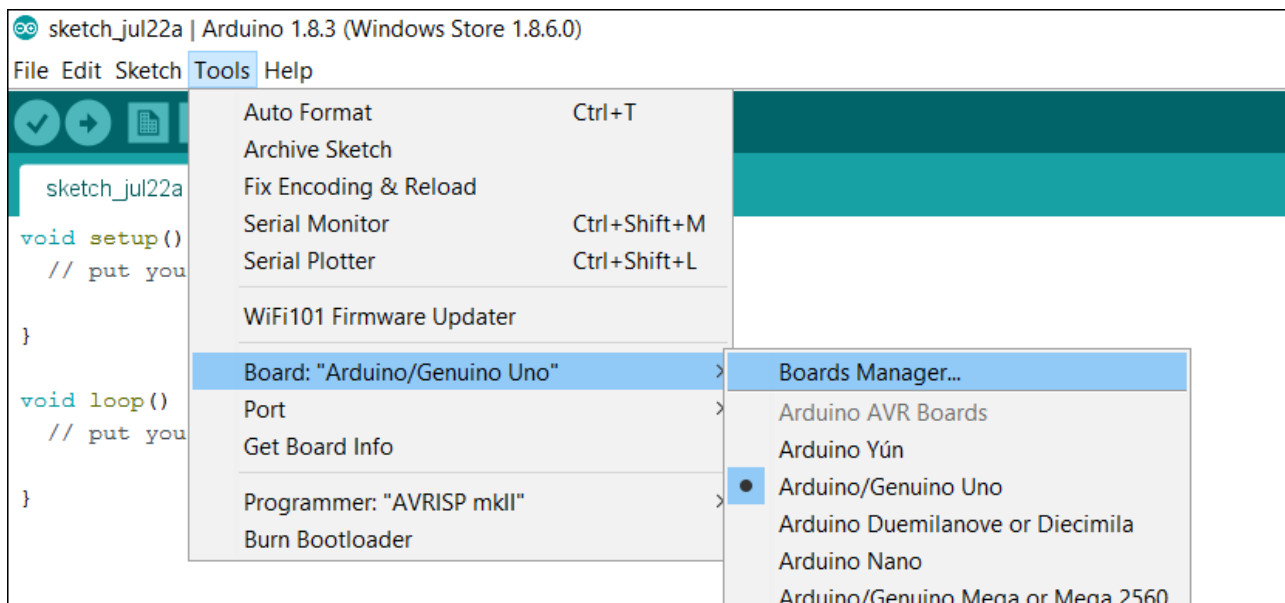

Figure 5-5 Arduino IDE, Boards Manager Menu
4) Now click the menu Tools / Boards / Boards Manager, as shown in Figure 5-5.